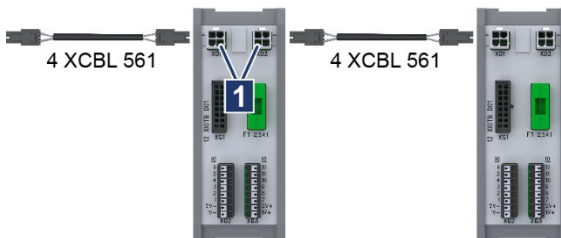

Fig. 6-7: Power supply connected to XFTB
2. Plug the power supply cable 4 XCBL 531 into terminal XD1 or XD2 on fuse block XFTB (→ Fig. 6-7/2).